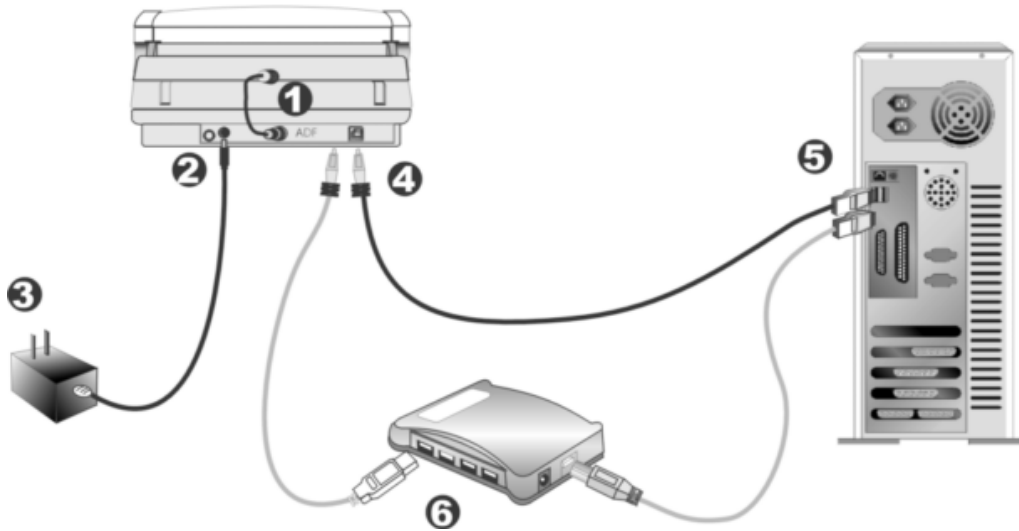

Figure 4. Installing the ColorPage-HR6A Scanner
1. Please take a moment to study Figure 4.
2. Attach the ADF connector cable. At the back of the scanner, you will find a short cable dangling from the ADF unit. Please attach the loose end of this cable to the port marked as ADF (see Figure 4, Step 1). The cable connector has a small triangle etched on it. Make sure this triangle is facing up when making this connection.
3. Plug the power adapter into the scanner's power receptor which can be identified by the symbol  on its top (see Figure 4, Step 2).
4. Plug the other end of the power adapter into a standard AC power outlet (see Figure 4, Step 3).
5. Plug the square end (Type B connector) of the included USB cable into the USB port at the rear of the scanner (see Figure 4, Step 4). You can find a USB sign  beside the USB connector at the rear of the scanner.
6. Plug the rectangular end (Type A connector) of the USB cable to the USB port on the back of your computer (see Figure 4, Step 5).
7. If you plan to connect your scanner to a USB hub¹, make sure that the hub is connected to the USB port in your computer. Next, connect the scanner to the USB hub (see Figure 4, Step 6).